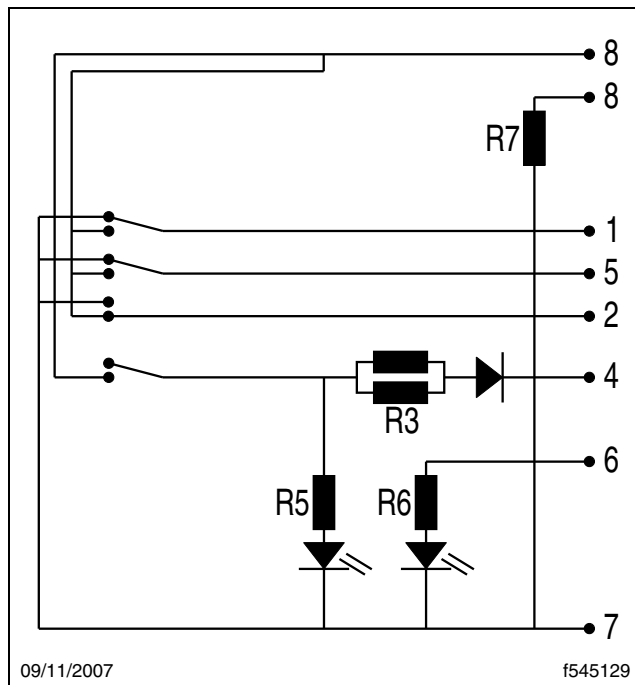

Fig. 7, Headlight Switch Pins
- 3.4 Measure resistance again between pins 4 and 8. See **Fig. 7**.